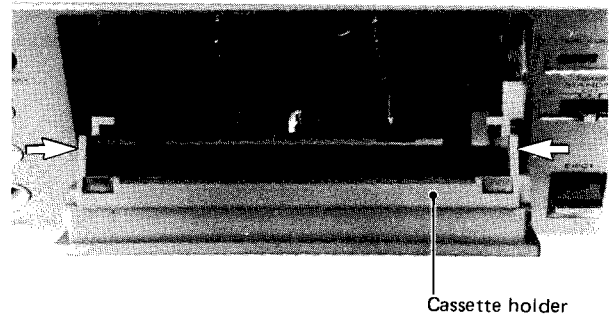

Fig. 39
3. Holding the cassette holder to the cassette door, remove the cassette door pushing both sides. (arrow marks in Fig. 39)